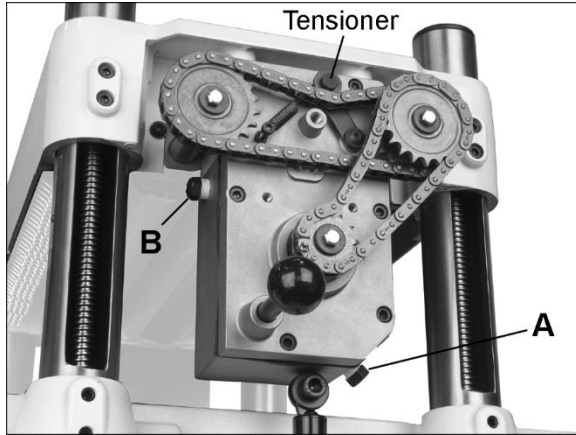

Figure 9-1
Your machine is equipped with a straight, serrated infeed roller and a rubber outfeed roller. When the feed rollers are engaged, they turn to feed the stock. The feed rollers slow automatically when the machine is under heavy load for best planing in all conditions. The feed rollers are driven by chains and sprockets (see Figure 9-1) which take power directly from the cutterhead through the oil bath gear box. The drive chain does not need tensioning, as a spring-loaded tension device (Figure 9-1) maintains proper tension at all times.
3. Remove drain plug (A, Figure 9-1), and remove filler cap (B). Drain the used oil thoroughly. Follow local codes for proper disposal of used oil.
4. Reinstall drain plug (A) and fill gearbox with clean lubricant through hole (B).
5. Install and tighten filler cap (B).